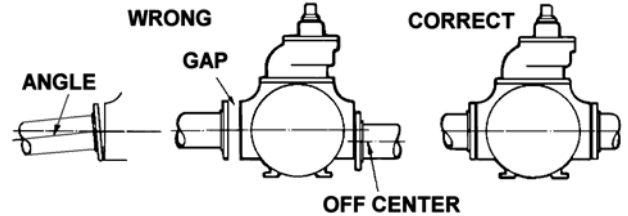

Figure 1
10. Check alignment of pipes to pump to avoid strains which might later cause misalignment. See Figure 1. Unbolt flanges or break union joints. Pipes should not spring away or drop down. After pump has been in operation for a week or two, completely recheck alignment.